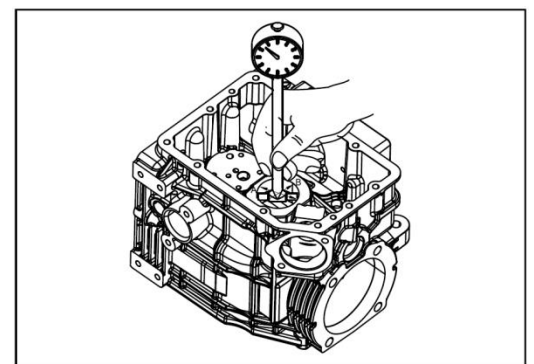

Fig. 7.4
4. Main Bearing Internal Diameter after Assembly (mm) : (Fig. 7.4)